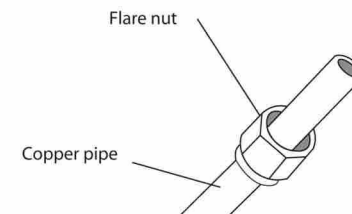

Fig. 5.3
3. Place flare nuts on both ends of pipe. Make sure they are facing in the right direction, because you can't put them on or change their direction after flaring. See Fig. 5.3.